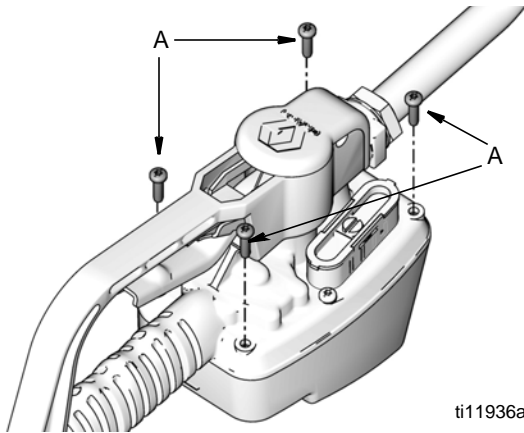

FIG. 1
1. Use a Torx (T20) wrench to remove 4 corner screws (A) located on the bottom of the meter (FIG. 1). Keep these parts for reassembly.